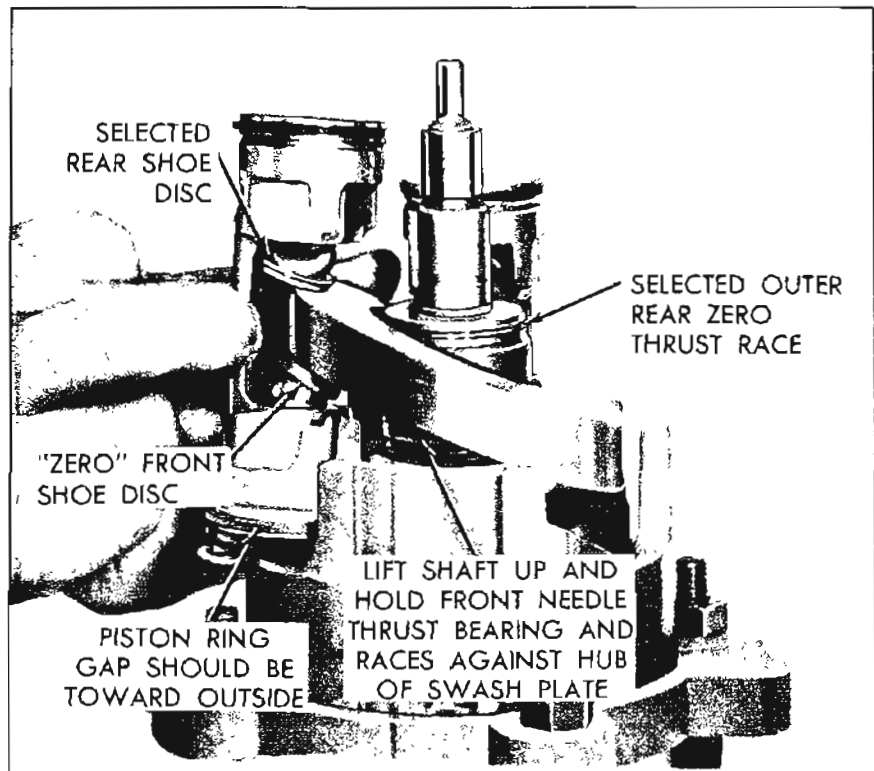

Figure 11-92—Installing Piston Assembly in Front Cylinder Half
37. Rotate shaft and swash plate assembly until high point of swash plate is over No. "1" cylinder bore. Position No. "1" piston onto swash plate (see Figure 11-92) and lower the piston and swash plate so that the front end (notched end) of the piston enters the cylinder bore.